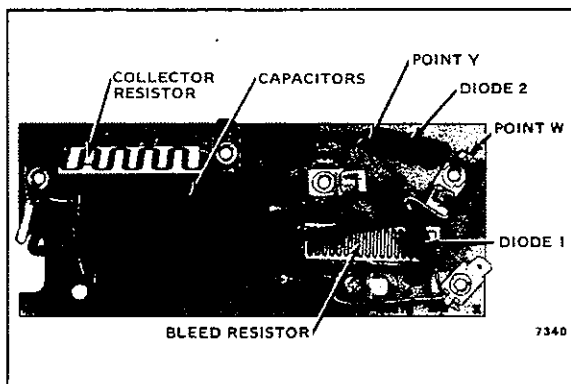

FIG. 21—DISCONNECT DIODES AT POINTS W AND Y.
- c. If no arcing noise is heard, check for continuity through the collector resistor (Fig. 21), and then check for a failure in the electronic cells. Go on to step 3.